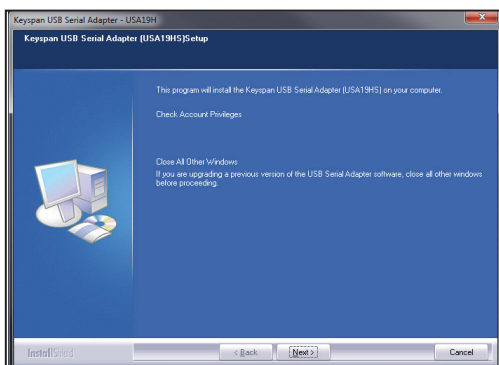
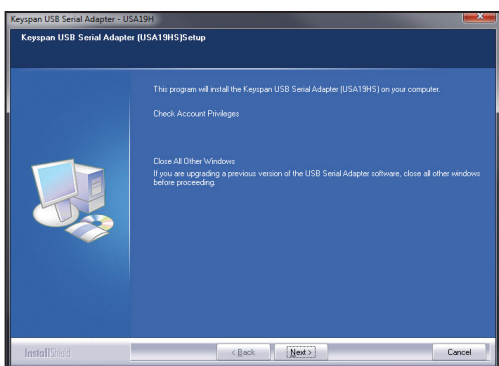

Fig. 6 InstallWizard Prepares Setup
Fig. 7 Check Privileges
6. You will see the screen shown in Fig. 6, which reads "Please Wait While InstallShield Wizard Prepares the Setup." After a few seconds the screen will ask you to check your account privileges (Fig. 7). Make sure you have the ability to install new programs on the office PC. Then click Next.